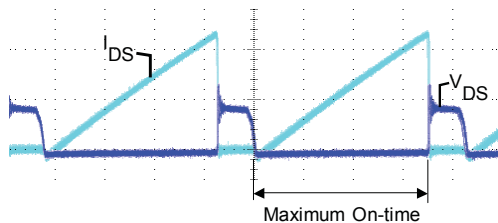

Figure 21. Maximum on-time
**Maximum on-time control function** The MOSFET on-time is limited during transients such as at low input voltage and at turn on and turn off of AC input. This is illustrated in figure 21. The maximum on-time is set at about 70% (approximately 32 μs) of the oscillation cycle (1/fosc = 45 μs). In designing a power supply, the MOSFET on-time at maximum load and at minimum input voltage should be considered.